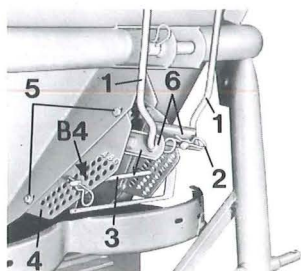
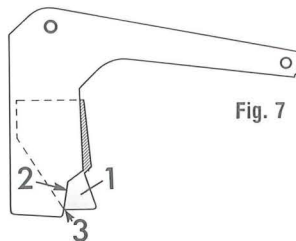

Fig. 1
Fig. 7
14. Check occasionally the correct position of the aperture openings if you want to ensure a correct and symmetrical distribution of the fertilizer. To obtain a symmetrical cast, both aperture openings should be identical. This can easily be checked by inserting the thick control rod into the position B4 (Fig. 1/3) of the quadrant-plate (Fig. 1/4). Then push downward the side-lever, so that both shutter levers are touching the control rod. In this position the aperture should be opened exactly the way as is shown in Fig. 7, i. e. the lower edge of the shutter (Fig. 7/2) should point exactly into the lower corner of the aperture opening (Fig. 7/3). Should in position B4 the aperture opening not be as described adjust the quadrant-plates (Fig. 1/4) by slightly undoing the nuts (Fig. 1/5), adjust and re-tighten.
15. After re-adjusting of the quadrant-plate (Fig. 1/4) check whether both shutter arms (Fig. 1/2) are leaning against the control rod (Fig. 1/3). If this is not the case, the one-hand side lever must be re-adjusted too. This is to be done at the lever adjustment-plate at the upper end of one of the lifting rods (Fig. 1/7). Should you wish to be certain that any adjustment made is expertly done it is suggested that you take your broadcaster to your nearest AMAZONE-dealer, who has a gauge for checking.